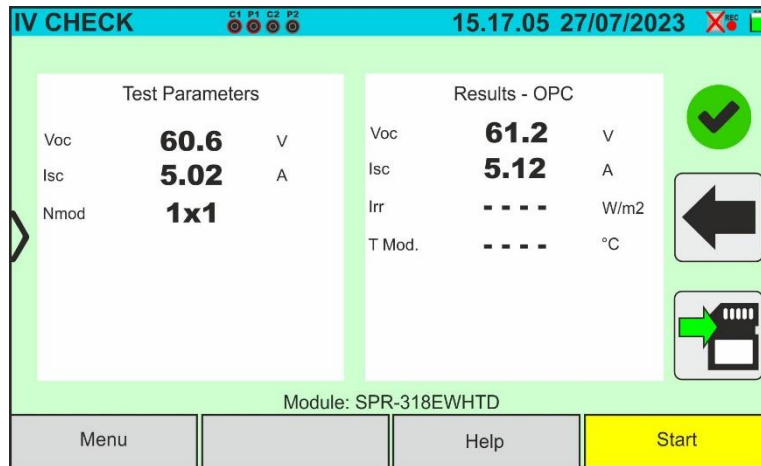

Fig. 77: IVCK test result @OPC with synchronous recording
16. Press the **START/STOP** key (or **Start** on the display) to activate the tests. If there are no error conditions, the instrument will show the icon "⌚" on the display for a few moments together with the message "**Measuring...**" The test can take **up to approximately 20 seconds**, depending on the open circuit voltage and module parameters. At the end of the test, the instrument will **only** display the values **measured at OPC without the references of the irradiance and temperature values of the module** (see Fig. 77) and it is necessary to wait for the end of the test session and the **subsequent synchronisation** with the SOLAR03 remote unit to obtain the final result (values @ STC) of the tests performed, as shown here below: